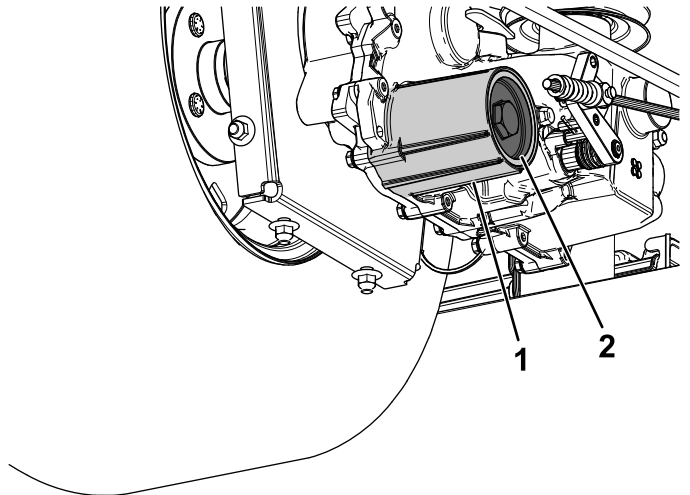

Figure 92
7. Remove the hydraulic-fluid filter cover from the transaxle to drain the fluid (Figure 92).